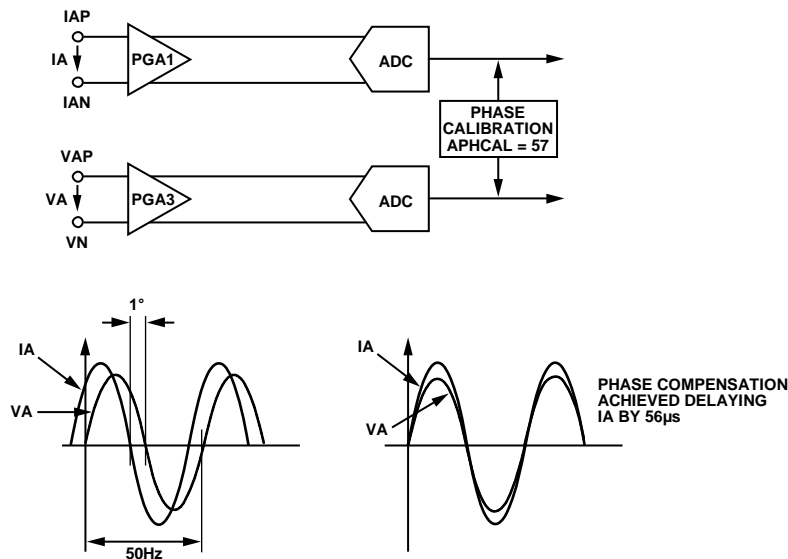

Figure 57. Phase Calibration on Voltage Channels
Figure 57 illustrates how the phase compensation is used to remove $x = -1^\circ$ phase lead in IA of the current channel from the external current transducer (equivalent of $55.5 \mu\text{s}$ for 50 Hz systems). To cancel the lead (1°) in the current channel of Phase A, a phase lead must be introduced into the corresponding voltage channel. Using Equation (20), APHCAL is 57 least significant bits, rounded up from 56.8. The phase lead is achieved by introducing a time delay of $55.73 \mu\text{s}$ into the Phase A current.